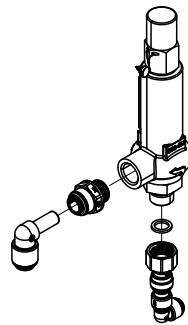

Fig. 9: Connect the screw fittings and seals to the pressure tank safety valve.
1. Connect all fittings and seals to the safety valve as shown in Fig. 9.